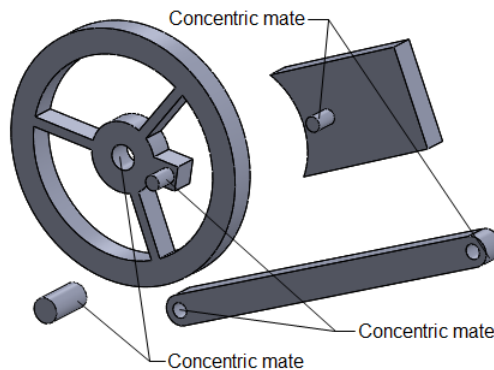

Figure 2-46 Parts faces selected to apply the mates
3. Invoke the **Mate PropertyManager** and apply the **Concentric** mate between the innermost circular face of the Wheel and the Shaft, refer to Figure 2-46. Choose the **Add/Finish Mate** button from the **Mate** pop-up toolbar.
4. Apply the **Concentric** mate between the left-most inner circular face of the **Connecting rod** and the cylindrical face of the handle on the Wheel, refer to Figure 2-46. Choose the **Add/Finish Mate** button from the **Mate** pop-up toolbar.
5. Similarly, apply the **Concentric** mate between the cylindrical face of the handle on the Slider and the other circular face of the Connecting rod, refer to Figure 2-46. Choose the **Add/Finish Mate** button from the **Mate** pop-up toolbar.